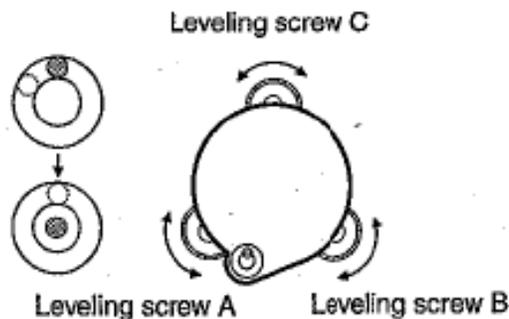

Figure 2: Diagram for rough leveling with the circular level.
- (a) Referring to Fig. 2, roughly level the instrument using the circular level: